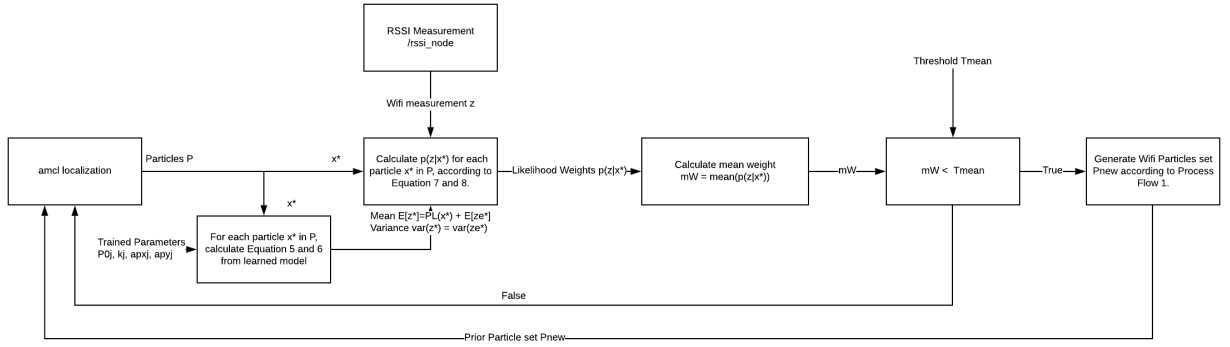

Figure 2: Process flow (2) diagram of KRP detection algorithm
- **Detect KRP incident and hence re-localize robot pose in case of fail localization.** This process is depicted in Figure 2.